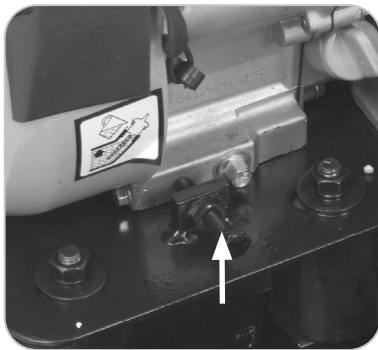

Fig. 19
- Loosen the four (4) hexagonal headed bolts using a suitable spanner (not supplied).
- Slide the engine backwards or forwards to alter the tension of the Drive Belt. An adjustment screw (**Fig. 19**) is provided at the front of the engine to aid precise positioning of the engine.